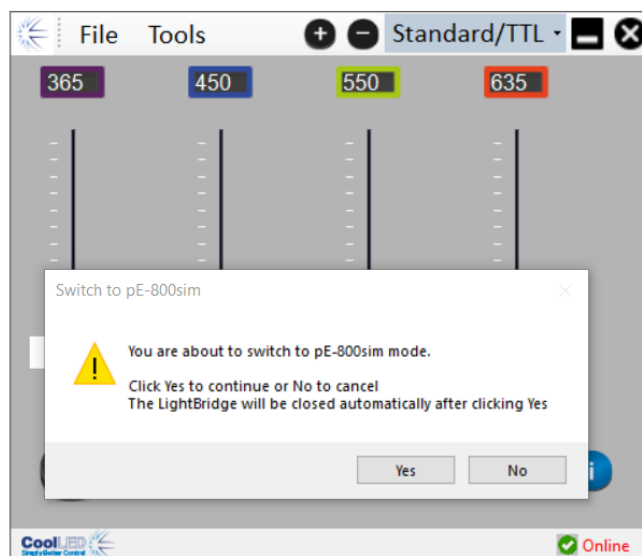

Figure 6: Entering pE-800sim mode via LightBridge
3. When the warning Window appears (Figure 6), select 'Yes'. LightBridge will now close.